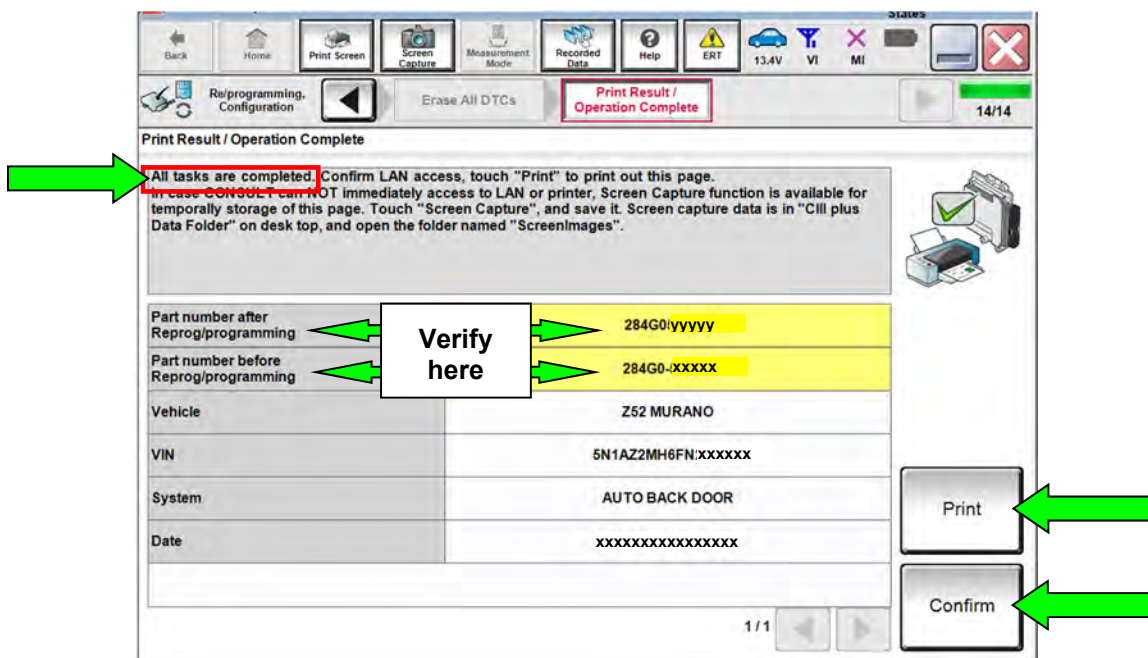

Figure 23
- a. Print a copy of the screen in Figure 23 by selecting **Print**.